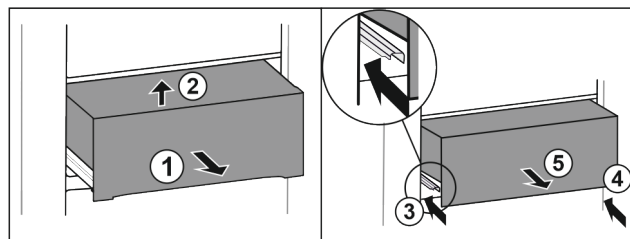

Fig. 24
- ▶ Pull out the drawer half-way Fig. 24 (1).
- ▶ Lift at the front Fig. 24 (2).
- ▶ Insert left rail Fig. 24 (3).
- ▶ Insert right rail Fig. 24 (4).
- ▶ Take out the drawer to the front Fig. 24 (5).